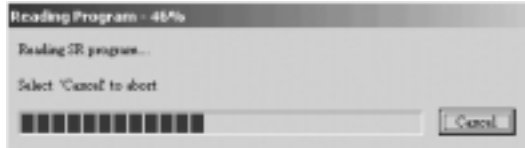

Fig. 4.25 Read Process
b. Input the right password, press “OK”, start read Program, shown as following Fig. 4.25: